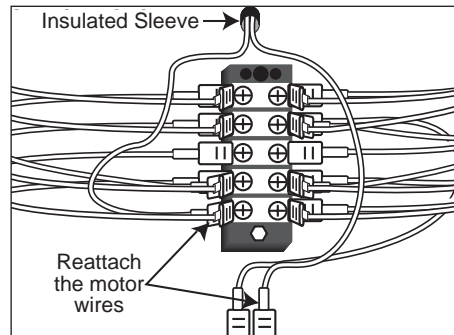

Figure 6
13. Reattach the motor wires to the terminal block and On/Auto switch. Be sure each connection is tight (Figure 6). Close service door and secure single large screw on side of door panel. Return the heater to its initial position.